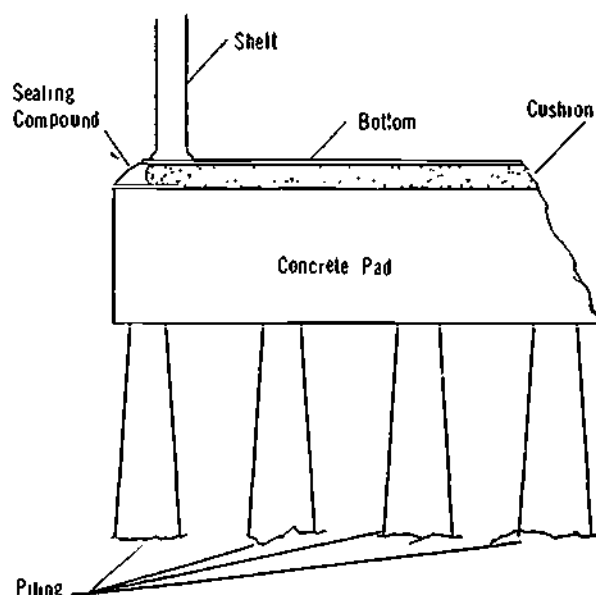

Figure 12-2. Concrete Pad for Tank Floor Support
**Solid Concrete Pad** A solid concrete pad is a base made of reinforced concrete with suitable footings built in some cases on wood or concrete pilings. One or two inches of sand or asphalt are usually applied on top of the concrete to serve as a cushion and keep out moisture. The pad is generally sealed around the edge with a form of mastic compound. Offsets are provided for sumps or drains in the bottom (Figure 12-2)